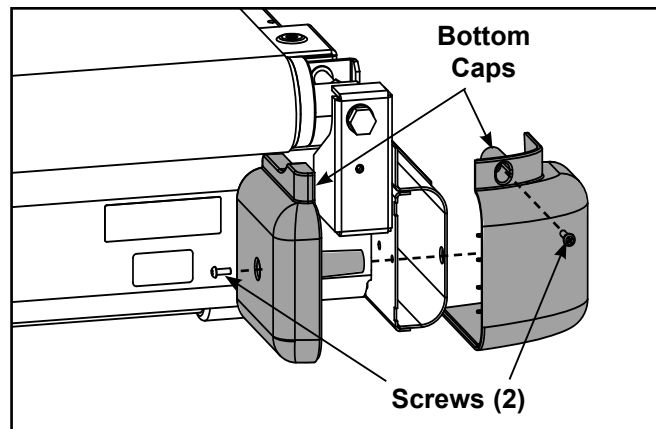

Figure 8
- Using a Phillips screwdriver, remove the two screws securing each of the bottom caps to the frame. See Figure 8.
- A. Slide the rear roller into the running belt. See Figure 8.
- C. Using a 3/4" socket wrench, tighten each rear roller bolt evenly, making sure not to tighten either bolt too many turns before moving to the other bolt. **NOTE:** *Do not overtighten the belt. Tensioning and centering belt is explained in step 20. See Figure 8.*